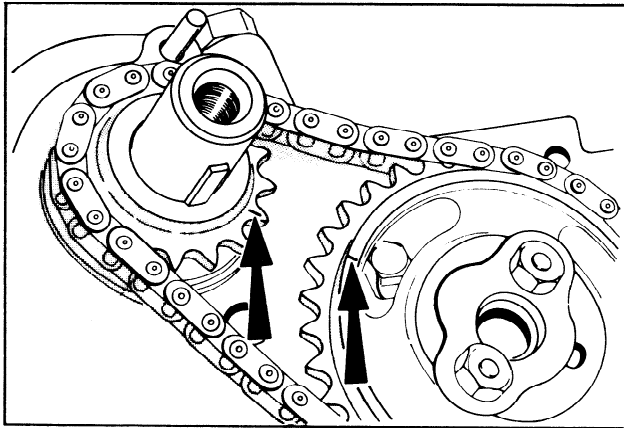

FIG. 34 Timing Marks
2. Position the timing chain over the camshaft and crankshaft sprockets so that the timing marks are aligned when the sprocket is installed (Figure 34). **The number 4 cylinder is on top dead center when using the gear marks as reference.** Tighten the bolts to specification, then bend up the locking tabs.